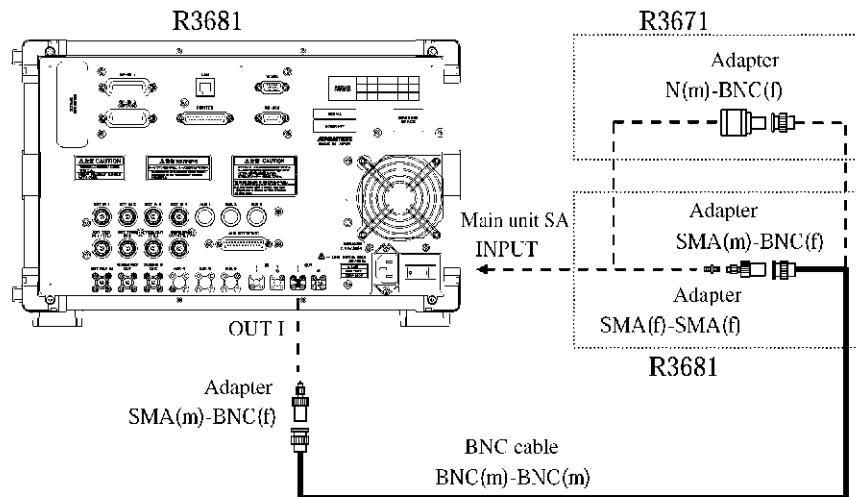

Figure 8-20 Marker 1 Output Verification Connection Diagram
2. Connect the instruments as shown in Figure 8-20.